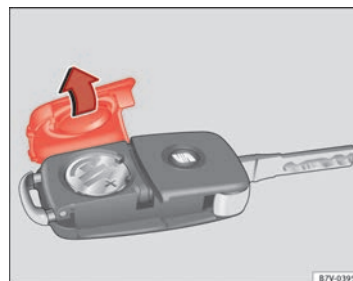

Fig. 43 Vehicle key: battery compartment cover.
The battery is located to the rear of the vehicle key, under a cover ⇒ fig. 43.
- Remove the cover from the back of the vehicle key ⇒ fig. 43 in the direction of the arrow ⇒ .
- Fit the battery compartment cover, pressing in the direction of the arrow as shown ⇒ fig. 43 until it clicks into place.